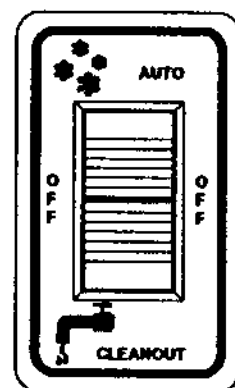

Fig. 44
2. Restore power to the unit and set the control switch (Fig. 44) to the "AUTO" position. The unit will not operate if the mix pan is empty.